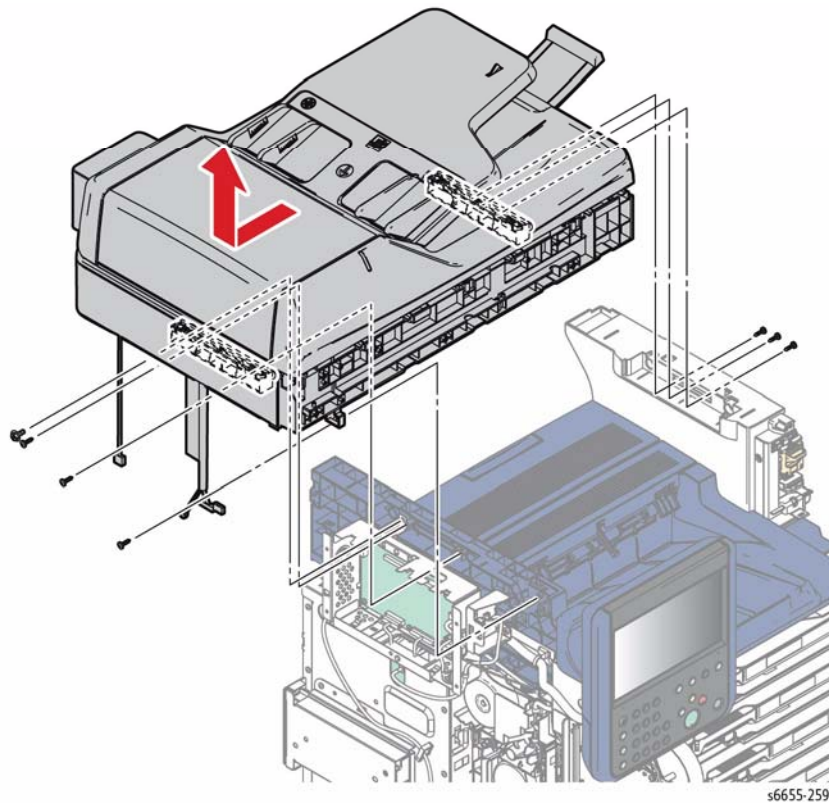

Figure 2 Remove the Screws Attaching the Scanner Assembly
4. Refer to Figure 2 to locate and remove three screws (silver, tapping, 10 mm) attaching the right side of the Scanner Assembly.